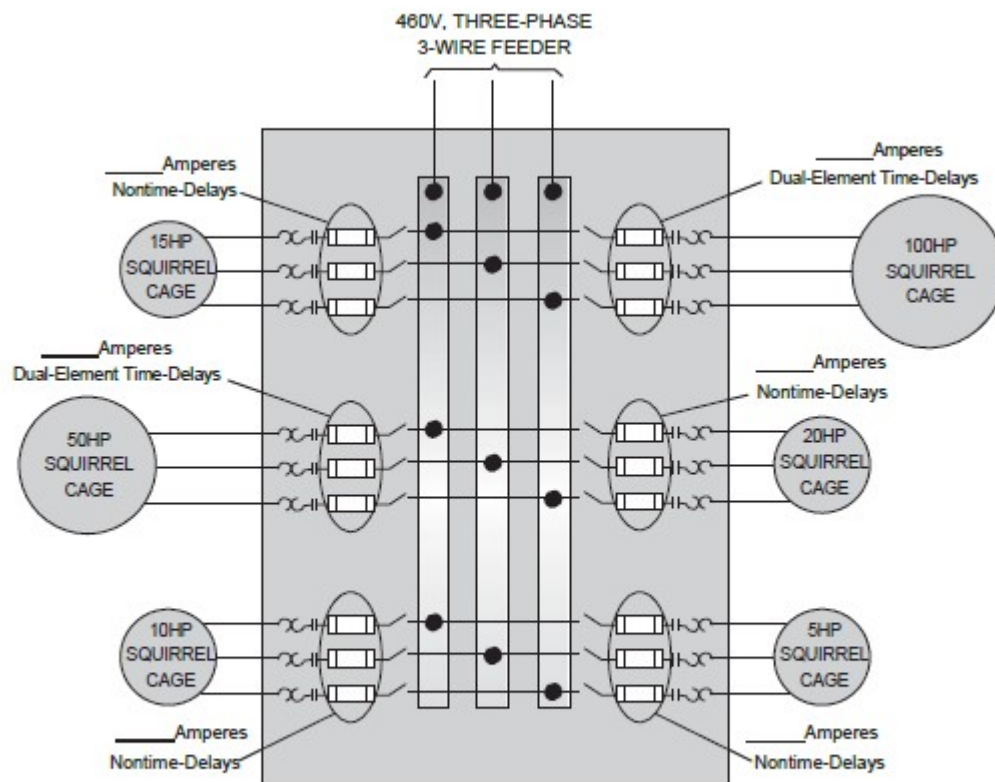

Figure 1 ■ Motor Distribution System Drawing
1. Look up and write down the full-load current in *NEC Table 430.250* for each of the motors shown on Figure 1.
2. Refer to *NEC Table 430.52* and determine the maximum fuse rating for each of the motors based on the type of fuse shown in Figure 1.
3. Calculate the fuse rating for each motor circuit based on the standard fuse ratings found in *NEC Section 240.6* and write your answers in the spaces provided on Figure 1.